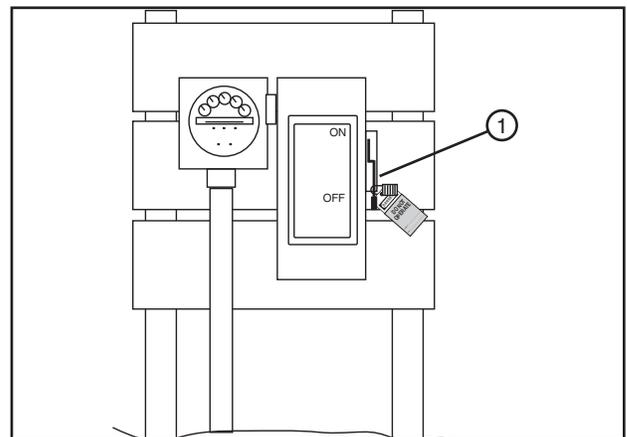

Figure 25-1 1. Public Power Service Disconnect
1. SHUT OFF and LOCK the public power service disconnect to the irrigation machine. FILL OUT the blue (OSHA safety color code) tag and attach to the disconnect after locking. See figure 25-1.